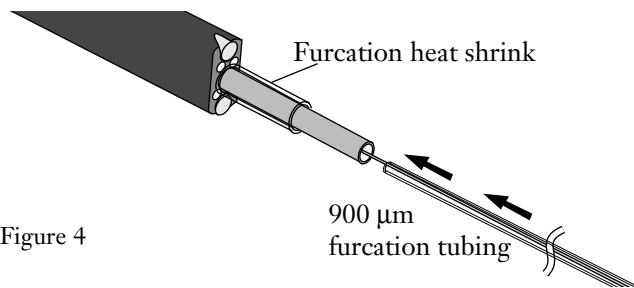

Figure 4
**5.4** Feed the 250  $\mu\text{m}$  fiber into the the 900  $\mu\text{m}$  tubing (Figure 4).